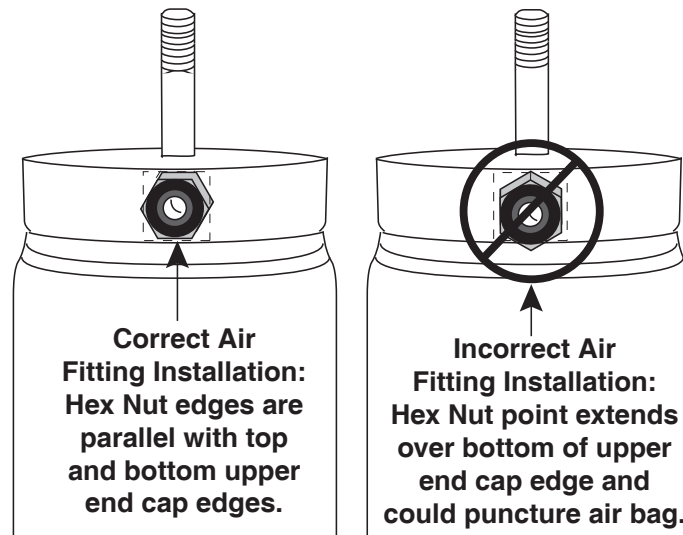

fig. 9
1. Apply loctite or a similar thread sealant to the air fitting (E). Insert the air fitting into the port in the upper end cap of the strut assembly (fig. 9).